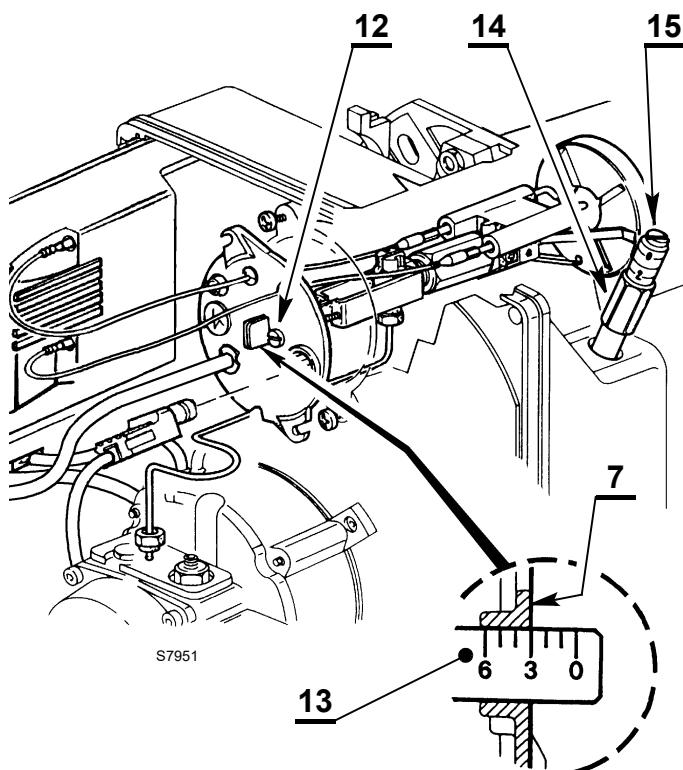

Fig. 9
- turn the adjustment screw 12)(Fig. 9) clockwise or anti-clockwise until the notch on the regulating rod 13)(Fig. 9) lines up with the outer surface of the nozzle-holder assembly 7)(Fig. 9).
- Loosen the nut 14)(Fig. 9) and set the damper using the screw 15)(Fig. 9).